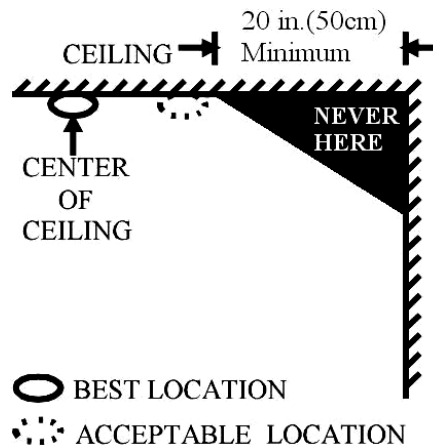

Fig. 4: Recommended best and acceptable locations to mount smoke detectors
- Install smoke detectors as close to the center of the ceiling as possible. If this is not practical, put the detector on the ceiling, no closer than 20 inches (50 cm) from any wall or corner, as shown in Figure 4
- Dead air spaces are often at the top of a peaked roof, or in the corners between ceilings and walls. Dead air may prevent smoke from reaching a detector. See Figures 4 and 5 for recommended mounting locations.